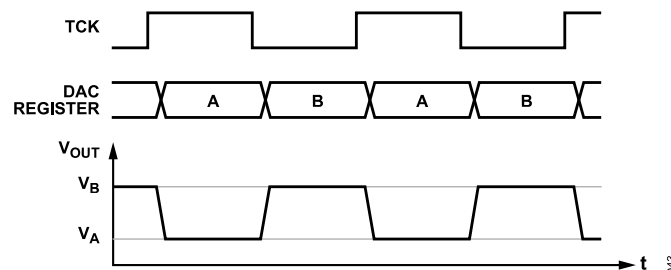

Figure 48. TCK Timing
When the TCK signal is high the DAC outputs a voltage (V_A) corresponding to Input Register A, and when TCK is low, the DAC outputs a voltage (V_B) corresponding to Input Register B (see Figure 48). The toggle function can be disabled by writing 0x0000 to the toggle/dither enable register (Command 11).
- Apply the toggle clock signal to the TGP2 pin. The DAC output voltage changes on the rising and falling edges of the toggle clock signal as shown in Figure 48.